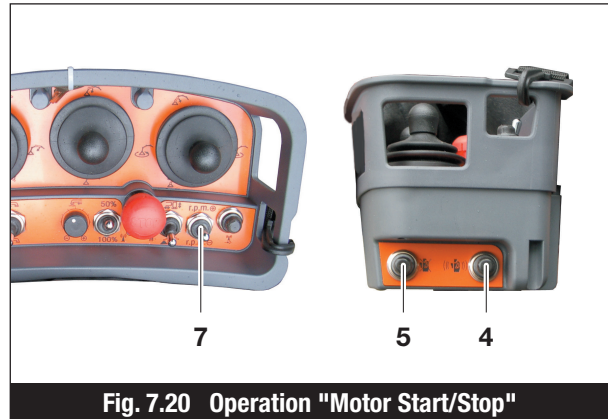
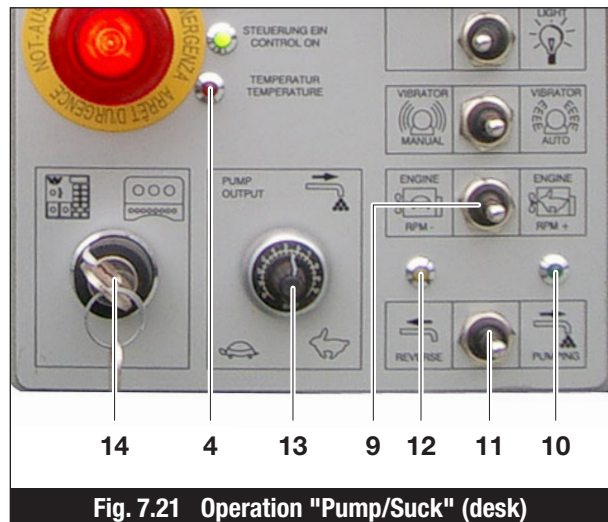
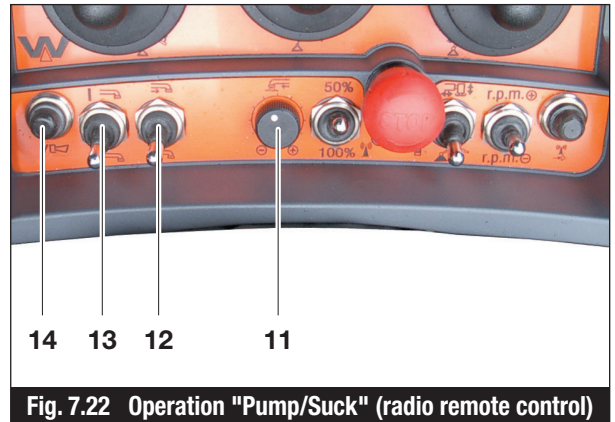

Fig. 7.20 Operation "Motor Start/Stop"
Fig. 7.21 Operation "Pump/Suck" (desk)
Fig. 7.22 Operation “Pump/Suck” (radio remote control)
The vehicle engine can be started from the remote control pendant using the push button (Item 4, Fig. 7.20). This can only be done if the key switch (Item 14, Fig. 7.6) on the control panel desk is set to “Remote Control”.
Pressing the push button (Item 5, Fig. 7.20) stops the vehicle engine, and inhibits its restart for approx. 10 sec.
Pressing the rocker switch (Item 7, Fig. 7.20 or Item 9, Fig. 7.21) brings the vehicle engine from idling to full speed within 10 sec.
The operating mode selection switch (Item 14, Fig. 7.21) must be set to “Desk”. The rocker switch (Item 11, Fig. 7.21) selects “Pump” or “Suck”. For confirmation one of the two indicator lamps (Item 10 or 12, Fig. 7.21) will light.
The stroke rate depends on the setting of the stroke rate potentiometer (Item 13, Fig. 7.21) and the engine speed.
If the hydraulic oil temperature exceeds 80 °C, the pump function is stopped and the indicator lamp (Item 4, Fig. 7.21) on the control panel desk will light. Sucking the concrete back remains available. The hydraulic system must be cooled down as quickly as possible by appropriate means (see section 7.6.4).
The rocker switch (Item 12, Fig. 7.21) on the remote control pendant is pre-set to “Pump” or “Suck”. Select “Pump” or “Suck” using the rocker switch (Item 13, Fig. 7.21).
The stroke rate depends on the setting of the stroke rate potentiometer (Item 11, Fig. 7.22) and the engine speed.
Opening the safety grill or pressing an Emergency Stop button (whilst the “Pump/Suck” switch is activated), will deactivate the “Pump/Suck” function, which must then be restarted by switching the rocker switch (Item 13, Fig. 7.22) off and on again.
- Set the key switch (Item 14, Fig. 7.21) to position “Desk” or “Remote control”
- Switch on the “Pump/Suck” function using rocker switch (Item 11, Fig. 7.21) or rocker switch (Item 13, Fig. 7.22)